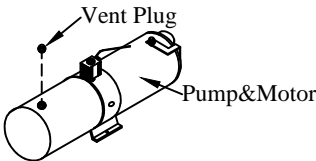

Figure 3: Vent plug installation.
- 4. **Unscrew** the solid plastic plug from the pump reservoir and **Install** the vent plug provided, if not already installed (Figure 3).